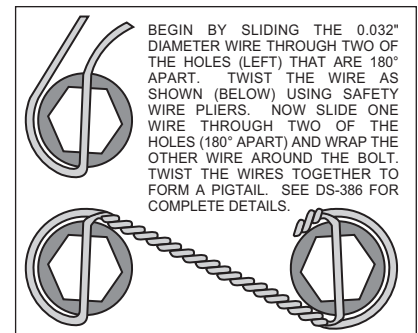

Figure 3. Safety Wire Diagram
- Identify the left and right caliper mounting brackets (1). Both brackets will be offset to the rear of the vehicle with the threaded inserts and the beveled bolt holes facing the outside of the vehicle. Apply red *Loctite*® 271 to bolt threads (2 and 4) before assembly of the caliper bracket (1) to dust face plate of spindle. Insert the two upper mounting bolts (2) and the lower mounting bolt (4) through the caliper mounting bracket (1). Install two lock nuts (3) on the upper mounting bolts (2) and finger tighten. Install one washer (5) and one lock nut (6) on the lower mounting bolt (4) and finger tighten. Torque two bolts (2) to 47 ft-lb. Torque bolt (4) and (24) to 77 ft-lb. **NOTE:** Be sure the heads of the caliper bracket (1) insert nuts are facing outward toward the wheel.
- Install five new wheel studs (7) into the hub (8). Torque to 77 ft-lb. **NOTE:** There are two five lug patterns in the hub (5 x 4.00 and 5 x 4.50). Make sure of the correct hole pattern for the correct wheel application before installing studs into hub.
- Pack the large inner bearing cone (9) with high temperature disc brake bearing grease (available from your local auto parts store) and install into the backside of the hub (8). Install the grease seal (10) by pressing into the backside of the hub (8).
- Attach rotor adapter (11) to rotor (12) using six bolts (13). Torque bolts (13) to 180 in-lb. Safety wire bolts (13) using standard 0.032 inch diameter stainless steel safety wire as shown in Figure 3. Please refer to Wilwood's data sheet DS-386 (available at www.wilwood.com/Pdf/DataSheets/ds386.pdf) for complete safety wire installation instructions. **NOTE:** The flat side of the rotor (12) lugs face toward the rotor adapter (11) with the dished side of the rotor adapter (11) facing away from the rotor (12).